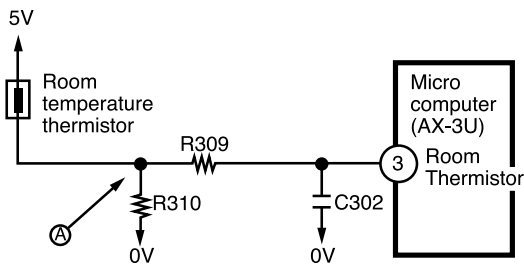

Fig. 8-1
- Fig. 8-1 shows the room temperature thermistor circuit.